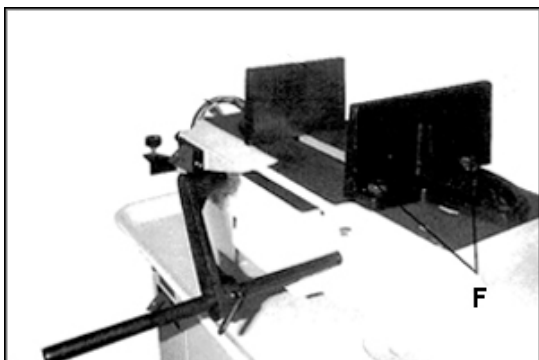

Figure 8-17: Vise Positioning (712 only)
- 1) Remove bolt and nut assemblies (F, Figure 8-17).
- 2) Position vise and reinstall as shown in Figure 8-17. Pay particular attention to bolt hole location.
- 2) Position vise and reinstall bolt assemblies as shown in Figure 8-17.